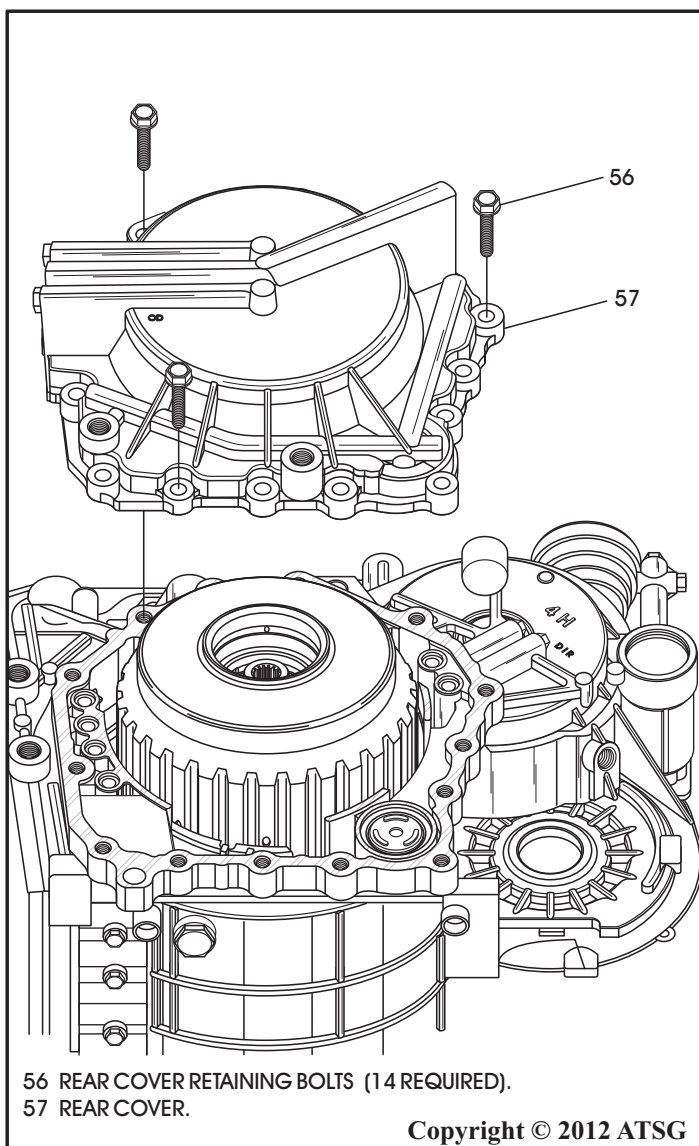

Figure 266
56. Install the rear cover dry (No sealant) onto the case, as shown in Figure 266, and torque bolts to 23 N·m (17 ft.lb.).